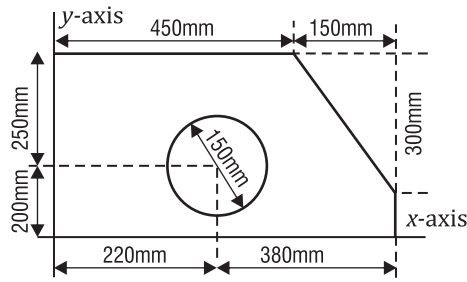

Figure 4.49
- (e) **Figure 4.49** shows a lamina with a hole 150mm in diameter. [281,7;214,68]